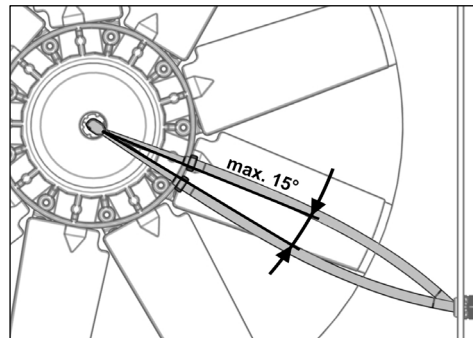

Fig. 30
- ▶ Check the tension and, if necessary, retension the pressure hose (see Fig. 30).